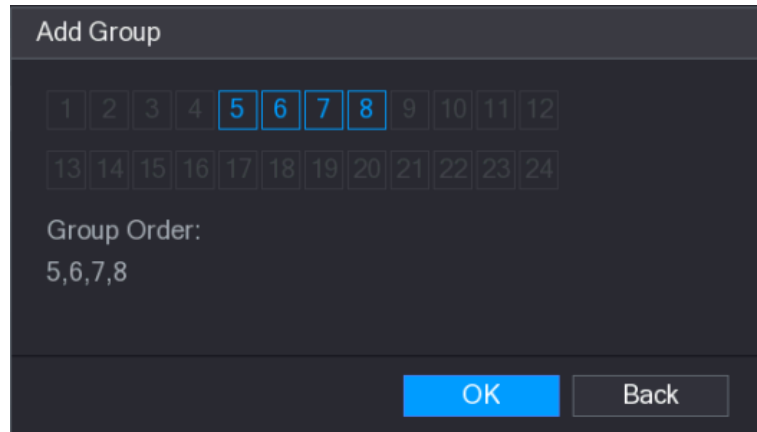

Figure 5-45
Step 2 Select the channels that you want to group for tour. See Figure 5-45.